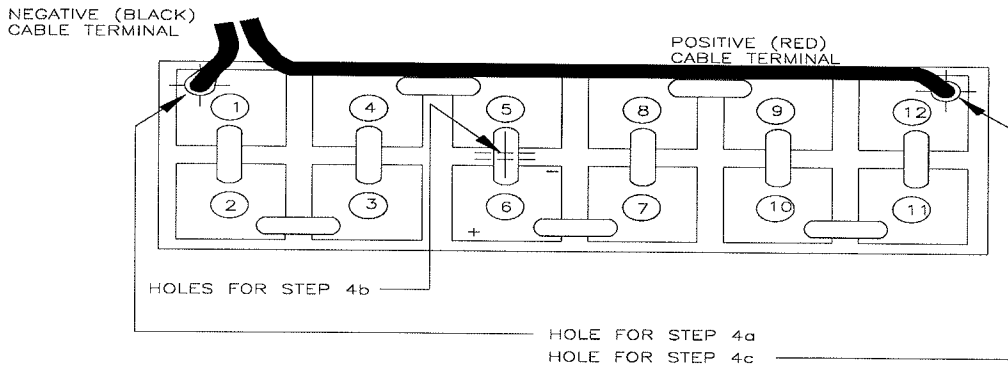

FIGURE 2
4. Refer to figure 2 and use a 3/16" a 1/2" deep hole in the following locations: